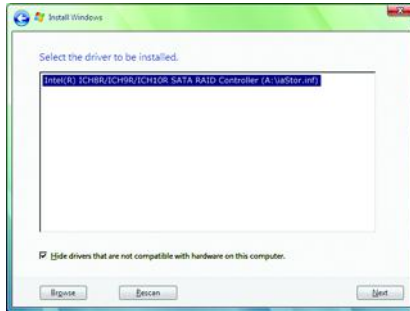

Figure 5
When a screen as shown in Figure 5 appears, select Intel(R) ICH8R/ICH9R/ICH10R/DO SATA RAID Controller and click Next.